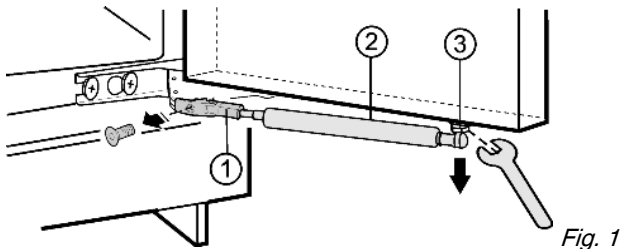

Fig. 1
- ▶ Unscrew retainer Fig. 1 (1).
- ▶ Unscrew ball stud Fig. 1 (3) together with the soft stop mechanism Fig. 1 (2) from the door and set to one side.